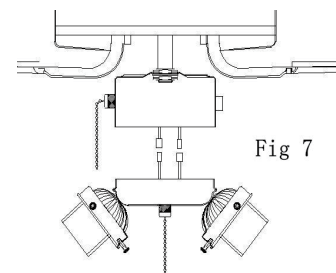

Fig 7
12.3. Connect the white wire from the switch box to the white wire from the light kit. as shown in fig 7